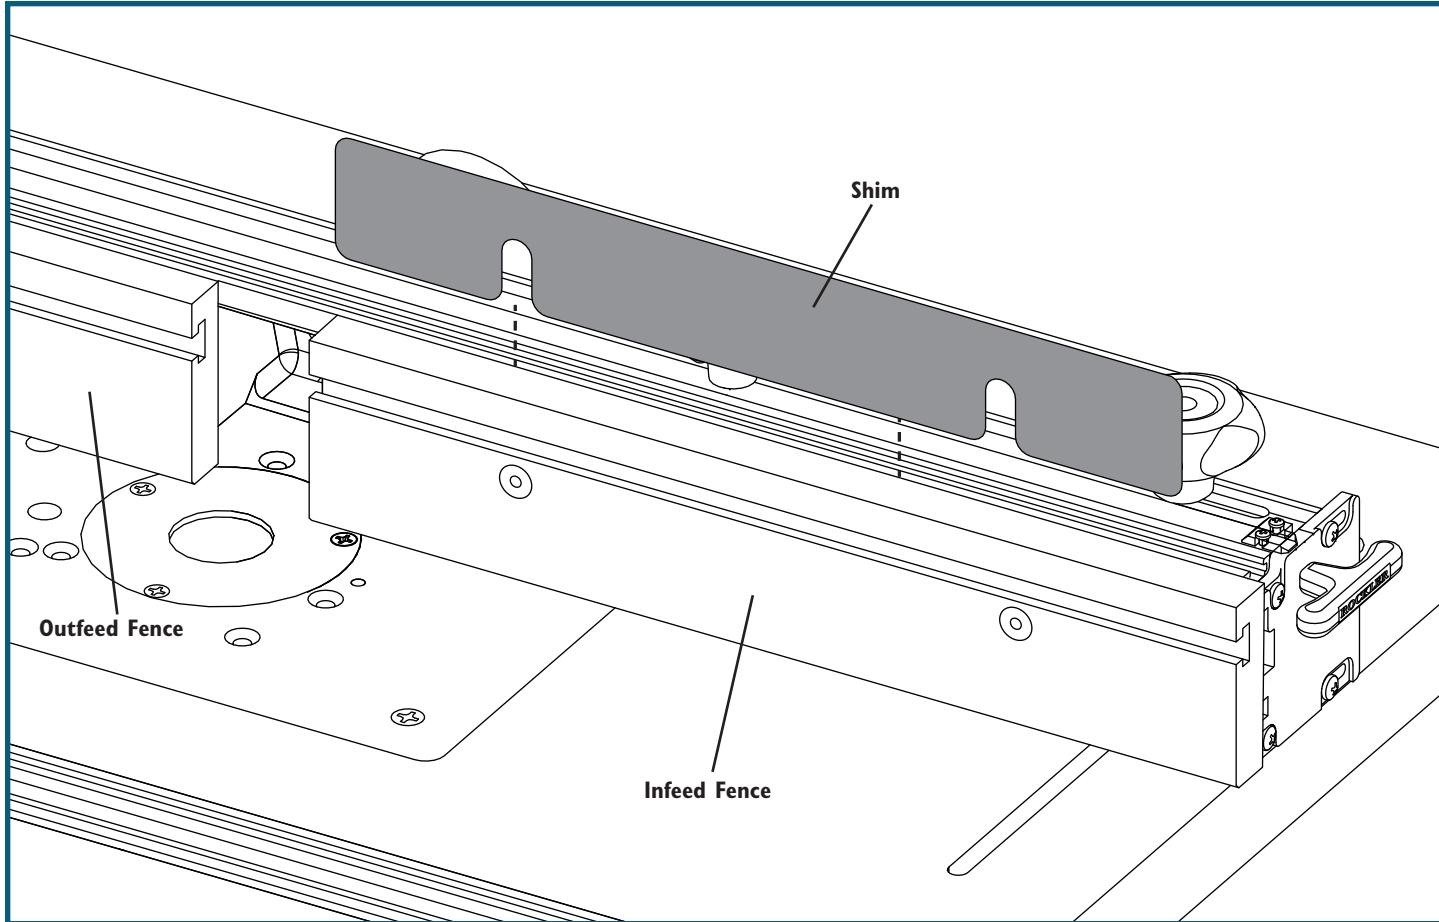

Fig. 4 - Bit guard removed for clarity
1. Tighten the Five-Star Knobs (9) to lock the Fence Body (1) to the router table, and use the Hex Key (12) to snug the MDF Adjustable Fence Faces (2) up to the fence. Also tighten the Fence Locking Knob (13).
3. If the board catches on the outfeed side, loosen the MDF Adjustable Fence Face (2) on the infeed (right) side.
4. Gather the included Shims (15-17). Fit the Blue .008 Shim (15) between the aluminum Fence Body (1) and the MDF Adjustable Fence Face (2) on the infeed side, taking care that the slots align with the bolts used to secure the Fence Face to the fence. **Fig. 4.** Make sure the Shim slides all the way down, and retighten the MDF Fence Face.